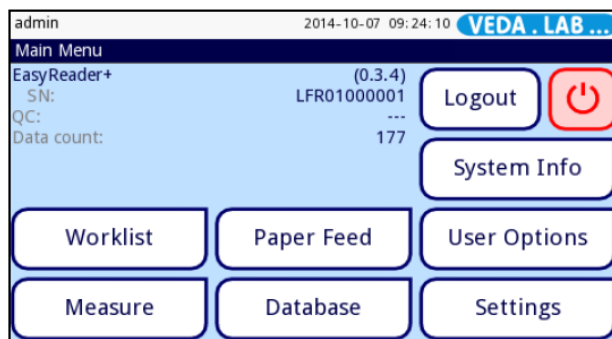
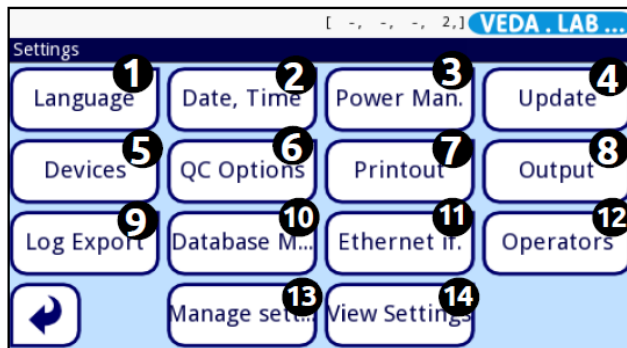

Figure 40: The Main Menu
Figure 42: The **Settings** screen with the function buttons labelled
To review active instrument settings tap the **Settings** button (Figure 40) on the **Main Menu** screen, and then the **View Settings** button (labelled 14 in Figure 42) on the **Settings** screen to review the currently active settings. Tap the **Print** button to print off the active settings as a list.
2 On the **Settings** screen, tap the **Language** button (labelled 1 in Figure 42), and then on the **Language** screen, select the radio button for your preferred language.
2 On the **Settings** screen, tap the **Date & Time** button (labelled 2 in Figure 42) to start setting the date and time.
1 Access the **Settings>Operators>Security** screen: go to the **Main** screen, then tap the **Settings** button, on the **Settings** screen, tap the **Operators** button (labelled 12 in Figure 42), then on the appearing **Operators** screen tap .
- 2 On the **Settings** screen, tap the **Printout** button (labelled 7 in *Figure 42*).
- 2 On the **Settings** screen, tap the **Output** button (labelled 8 in Figure 42), and select the **LIS2** radio button. Tap the **Next** button to configure the selected transfer.